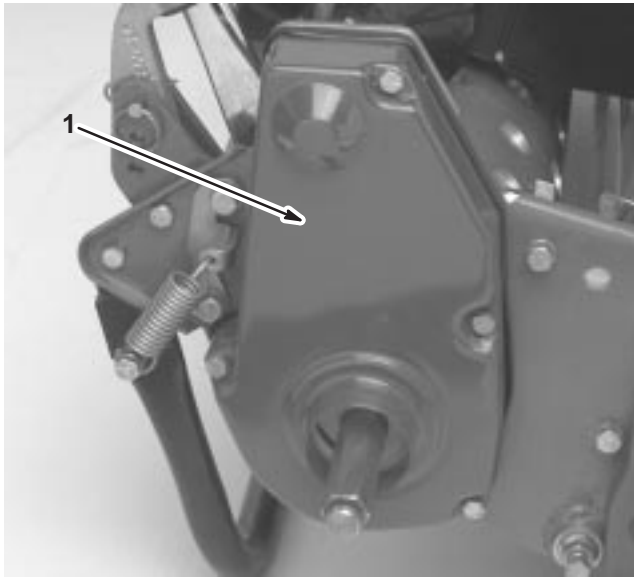

Figure 9
6. Remove the rear belt cover from the right side of the machine (Fig. 9).